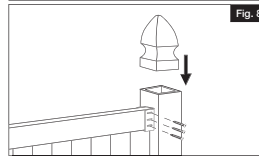

Fig. 8
- Ensure posts are flush against panel. Secure all screws into the panel in the center bracket slots (Fig. 8).
- Attach post tops to posts (Fig. 8).